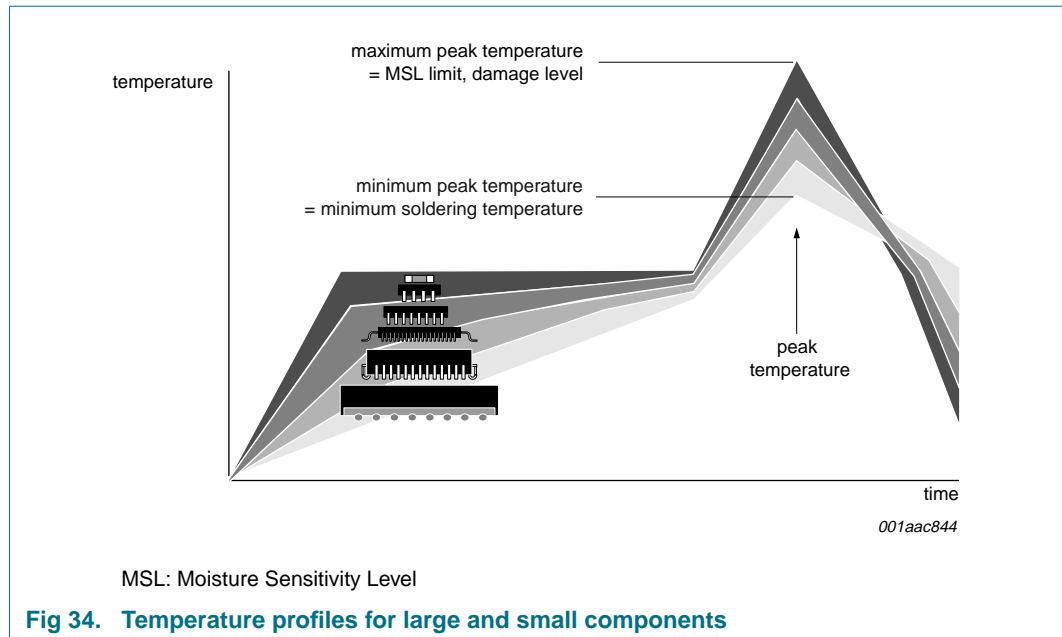

Fig 34. Temperature profiles for large and small components
- Lead-free versus SnPb soldering; note that a lead-free reflow process usually leads to higher minimum peak temperatures (see Figure 34) than a PbSn process, thus reducing the process window
Studies have shown that small packages reach higher temperatures during reflow soldering, see Figure 34.